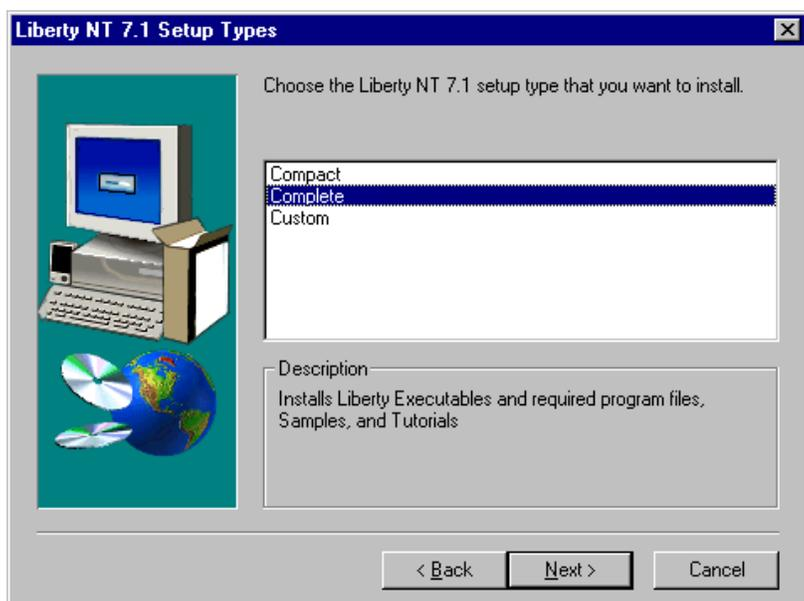

Figure 2-4. Select Set-up Type
- [] 5. Next, select the Setup Type that you wish to install. InstallShield gives you a choice of three Setup Types as follows (see Figure 2-4):